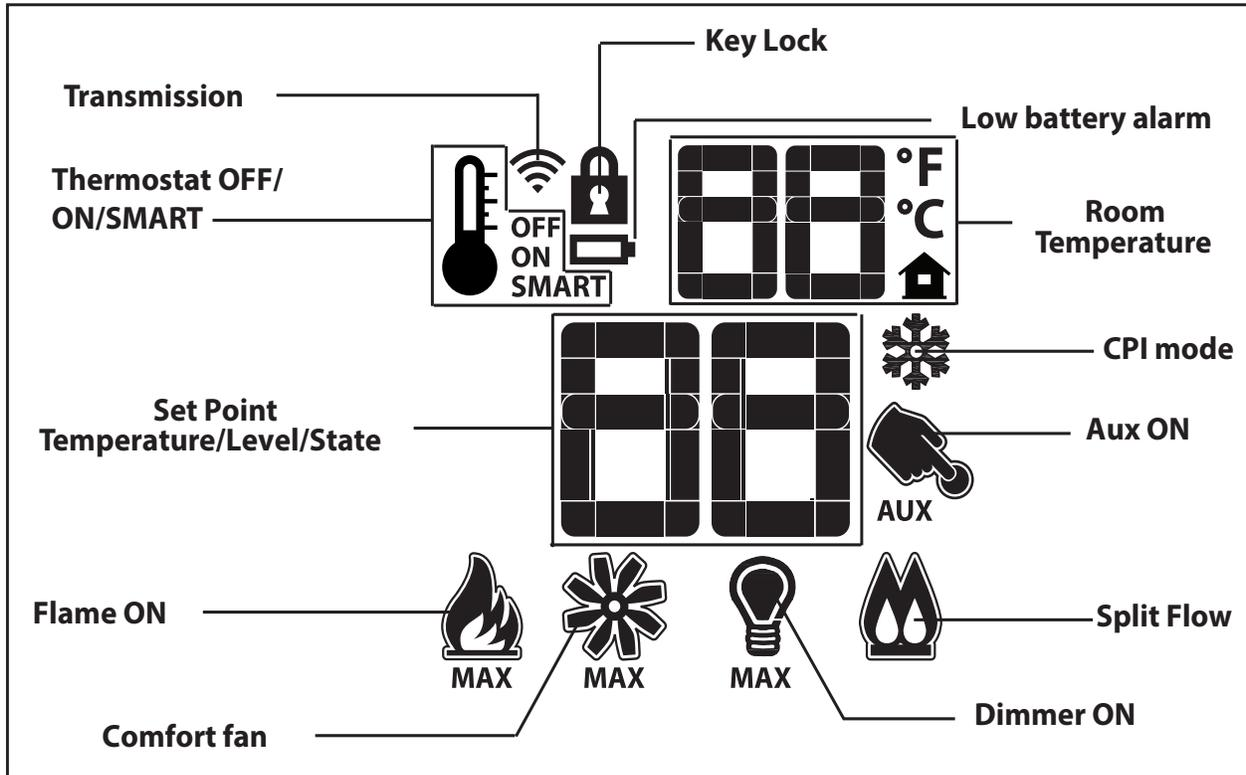

Figure 3: Proflame 2 Transmitter LCD Screen.
The Proflame 2 Transmitter is a black remote control with a blue backlit lcd display. It uses a streamline design with a simple button layout and informative lcd readout (Figure 2). The Transmitter is powered by three (3) AAA type batteries. A Mode Key is provided to Index between the features and a Thermostat Key is used to turn on/off or index through Thermostat functions (Figure 3)